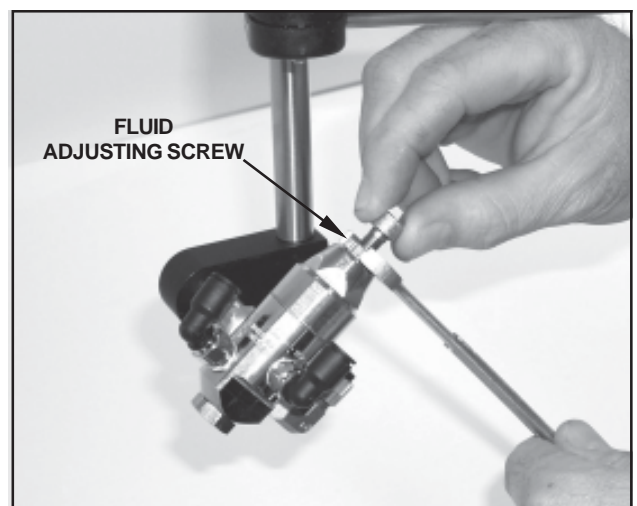

FIGURE 16
- 2- Turn the fluid adjusting screw in a clockwise direction (Figure 16) until it stops. At this point, the screw is touching the rear of the valve control piston and will prevent the valve from opening.